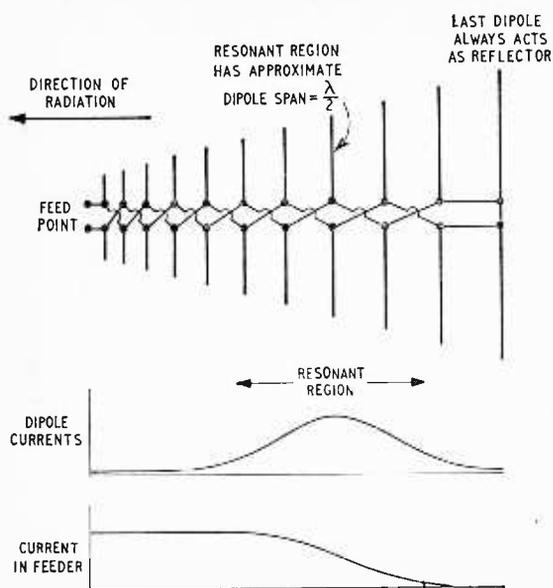

Fig. 3. Schematic diagram of logarithmic dipole aerial. When frequency is changed resonant region moves along array.
**Propagation in a Waveguide:**—If we wish to constrain an electromagnetic wave so that it is propagated in an enclosed path such as a tube or waveguide, without significant attenuation, it must be arranged to comply with certain laws propounded by Maxwell. These state among other things, that for an electromagnetic wave to propagate along a plane surface the electric field must be at right angles to, or zero at that surface. Let us now consider two waves, each like that shown in Fig. 2 crossing each other at an angle to produce the field pattern as shown in Fig. 3. At all points along lines A the electric field cancels and we have the conditions (zero field) for the Maxwell equations. We can, therefore, put plane surfaces at any of the lines A and the wave will propagate in the direction shown in Fig. 3.
If we enclose the other two sides the equations will again be met as the E field will cut them at right angles. It will be seen then that a wave can be directed down a rectangular tube provided that the sides A are correctly spaced. Let us consider the limits of positioning the sides with regard to the wavelength of the signal we wish to propagate. It will be seen from Fig. 3 that the two waves that make up the pattern may cross at any angle between zero and 90°, but in all cases the guide wavelength ( $\lambda_g$ ) is always greater than the free-space wavelength ( $\lambda_0$ ).
Referring again to Fig. 3, it can be shown from simple geometry that
**Modes:**—Referring again to Fig. 3 we can place our broad or “ $a$ ” dimension of the guide on any two of the A lines. Considering two adjacent lines we will obtain field patterns as shown in Fig. 4. This is called the “ $H_{10}$  (magnetic)” or “ $TE_{10}$  (transverse electric)” mode, meaning that the variation of electric field is across the guide, with no longitudinal component, the (1) denoting that there is one maximum across the broad dimension and the (0) denoting that there is no maximum across the narrow dimension.
We have already seen that for a particular “ $a$ ” dimension there is a lower frequency limit. If, however, the frequency is increased  $\lambda_o$  will decrease until it is possible to accommodate two sets of zero E lines, i.e. A to A' in Fig. 3, between the waveguide walls. This mode is termed  $H_{20}$  following the same reasoning as above. It will readily be seen that given correct dimensions with relation to frequency modes of any suffix can be propagated. This, however, causes great difficulty of measurement and manipulation, so various waveguide sizes are used for given bands of frequencies so that only the  $TE_{10}$  mode is propagated (thus setting the upper
Above: Fig. 3. Plane surfaces inserted at positions A in a free field simulate the action of a waveguide.